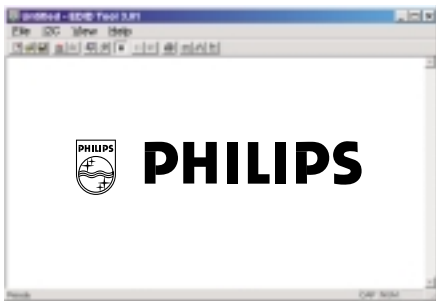

Fig. 6
- 4. Click OK button. The main menu appears (as shown in Fig. 6). This is for initialize alignment box.